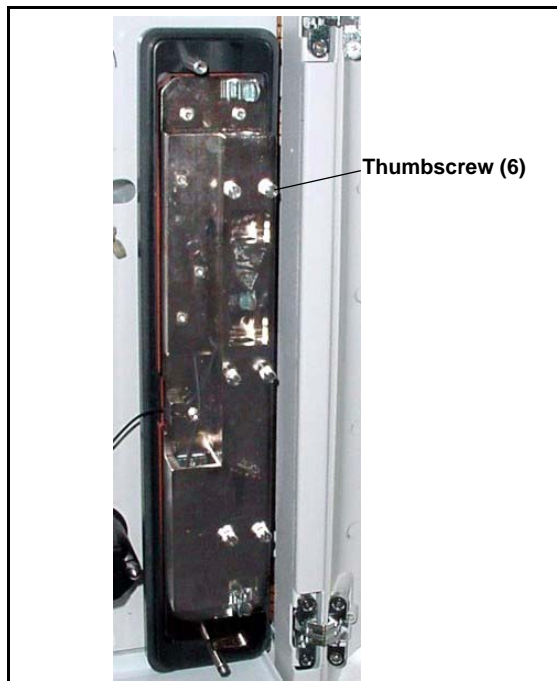

Figure 19. ICS-1500 Column Heater Cover Removed
4. Unscrew the six thumbscrews on the top metal plate (see Figure 19) and remove the plate.